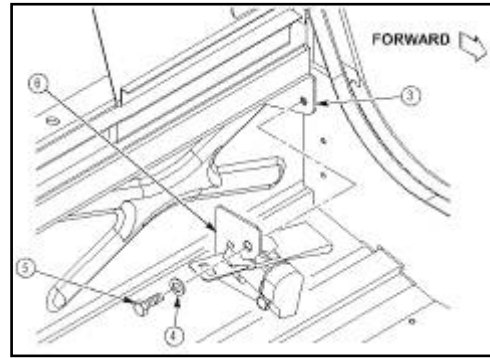

Figure 8b.
- R. Remove capscrew (5), washer (4), and rear seat belt with bracket (6) from vehicle mounting bracket (3) as shown in figure 8b. Repeat procedure for opposite side of vehicle. Discard capscrews (5) and washers (4).